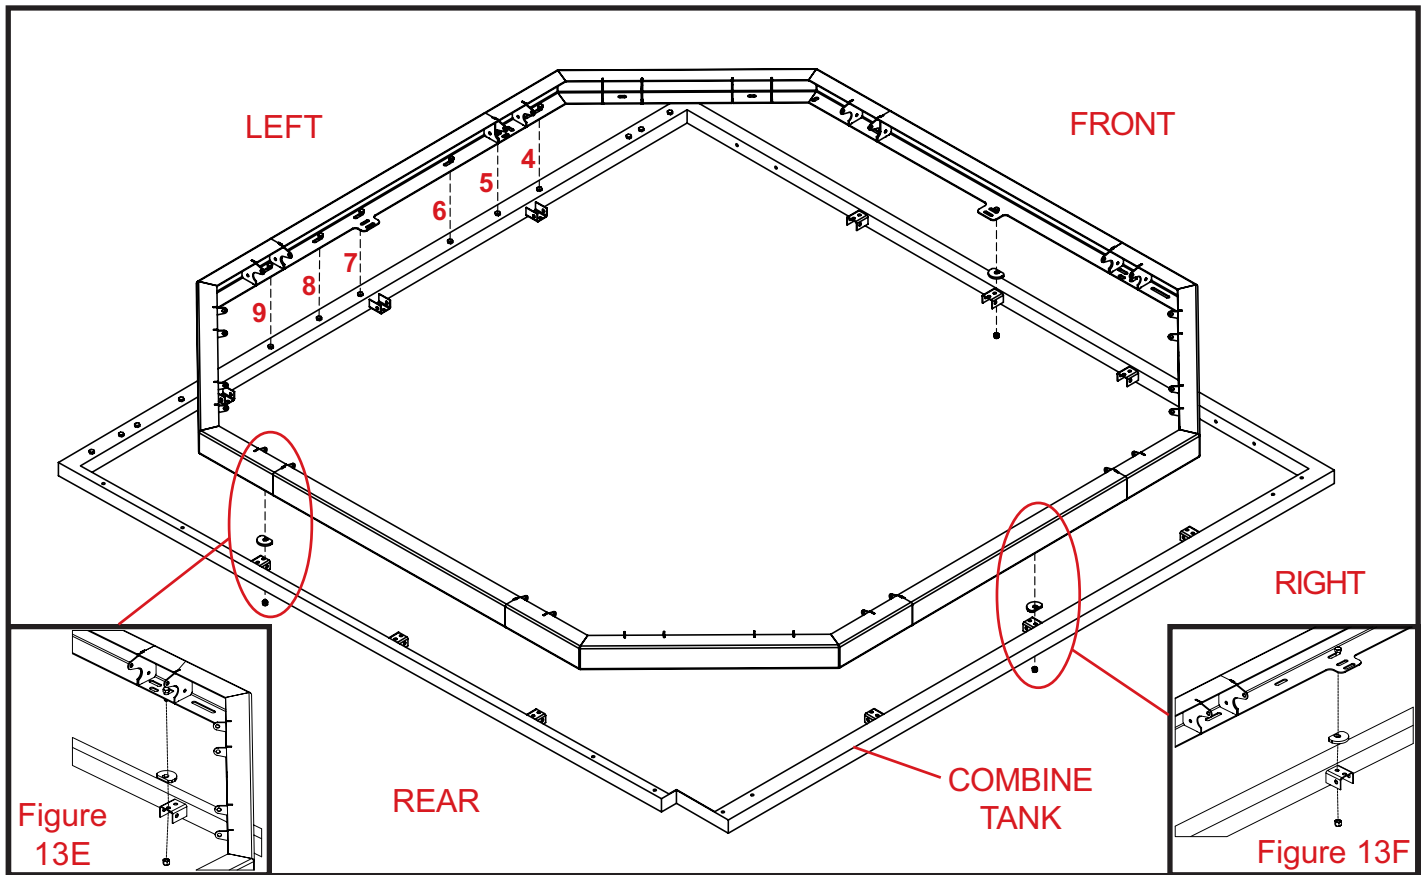

Figure 13D
Remove all of the Deere factory installed vertical tip-up boards from the top of the S650 combine. Then on the left side of the combine tank you will notice (13) bolt heads. Using a ratchet with 15mm socket and 15mm wrench, remove and save bolts 4-9 as shown in figure 13D. The bolts removed will be used later to fasten the Maurer bin extension to the combine tank.
Using the top holes of the existing front, rear, and right side tank brackets. Slide the provided frame spacers between the bin extension frame and the existing tank bracket. Bolt through the frame, spacer, and tank bracket with 5/16" x 1" serrated flange bolt and 5/16" serrated flange nut. We recommend that the tasks explained in this step be preformed where areas are circled in Figure 13D. See figures 13E and 13F for exact details.